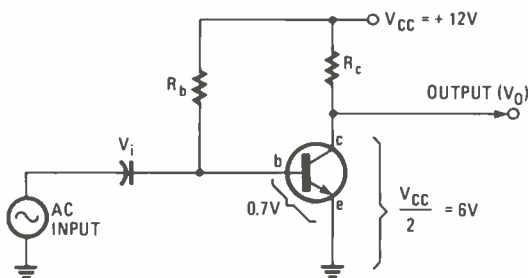
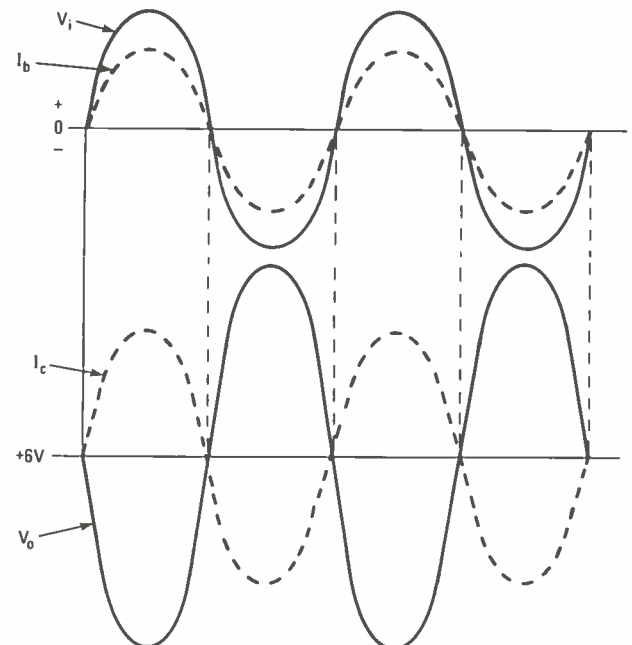
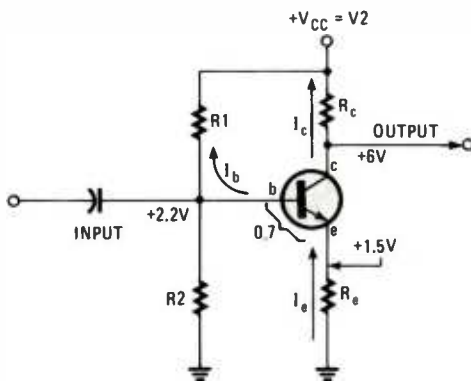

Fig. 2—This is the simplest transistor amplifier circuit.
Fig. 3—These waveforms show the relationship between input voltage, base current, collector current, and the output voltage for the circuit in Fig. 2.
Fig. 4—R1 and R2 form a voltage divider for the base of a basic amplifier. R_e is the emitter resistor, which is actually the effective resistance.
Fig. 2—This front-panel template can be copied or cut from the page and affixed to the front panel, with clear plastic laminating film covering the paper's surface to protect the project and enhance its appearance.
8. The simplest amplifier circuit uses one transistor, as shown in Fig. 2. Resistor R_b biases the emitter-base junction into conduction and base current I_b flows. The DC base voltage is about 0.7 volts with respect to ground. The value of R_b is selected to produce a base current that will set the conduction of the transistor such that about one-half the supply voltage ($+V_{cc}$) is dropped between emitter and collector. The other half of the supply voltage appears across collector resistor R_c , putting $+6$ volts on the collector.
11. (decreases, increase, increases) If the input voltage is an AC sine wave, the base current, collector current, and output voltage all vary in the same way. Figure 3 shows the relationship
The amplifier in Fig. 2 produces an output that is an enlarged but _____ version of the input.
12. (Inverted) The Fig. 2 amplifier illustrates some important principles that apply to all amplifiers. First, the small input voltage simply varies the current in a control device such as a transistor, which is part of a voltage divider. The result is an output voltage that is an enlarged DC version of the input voltage variation. The small input signal is not literally amplified. Instead, the input signal simply controls the resistance of the transistor to create a new and larger signal of the same shape.
14. Refer to Fig 4, which is a version of the simple circuit shown in Fig. 2. Its operation is basically the same, but the bias is obtained in a different way. First, a voltage divider consisting of
The three bias components in Fig. 4 are _____, _____, and _____.
15. (R_1, R_2, R_e) The Fig. 4 bias method is more reliable and stable than the single base resistor shown in Fig. 2. It is the most widely used method of biasing transistor circuits.
Refer to Fig. 4. Current flow through R_e puts a small positive voltage on the emitter of transistor Q1. The R1-R2 voltage divider puts a larger positive voltage on the base so the emitter-base junction is forward-biased. The voltage between the collector and ground is about one-half the supply voltage so it is more positive than the base. Therefore, the base-collector junction of the NPN transistor is reverse-biased as it should be. Thus the circuit is properly set up for amplification.
The base voltage in Fig. 4 is derived from a _____.
16. (voltage divider) When an AC voltage is applied to the base through capacitor C1, the base current (I_b) varies, which varies the collector current (I_c). If I_b increases, I_c increases and vice versa. If I_c increases, the resistance between emitter and collector decreases. Therefore, the output collector voltage decreases. In this respect, this circuit is similar in operation to the circuit in Fig. 2. The waveforms in Fig. 3 apply.
19. (bias stability, reduced distortion) The gain of the circuit in Fig. 4 is approximately equal to the ratio of the collector resistor (R_c) to the emitter resistor (R_e).
23. (gain) We indicated earlier that the bias arrangement shown in Figs. 4 and 6 is the most widely used because of its stability. However, you will see other bias arrangements. Two of those variations are shown in Fig. 7. In Figure 7A, one of the bias voltage divider resistors (R_1) is connected to the collector rather
The arrangement in Fig. 7A has _____ (higher/lower) gain than the circuit in Fig. 4.